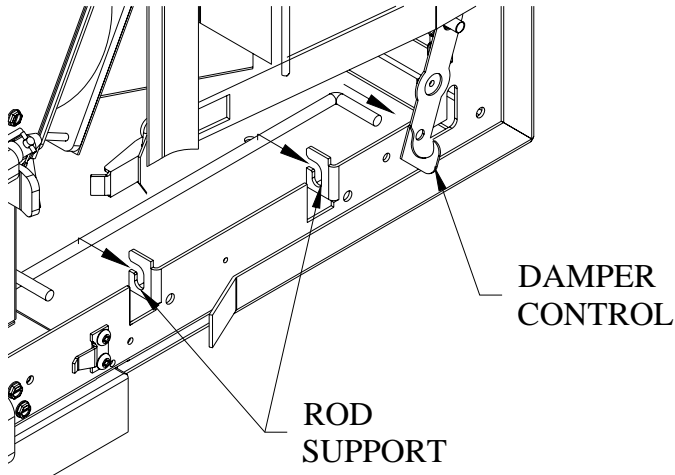

Figure 24
- 1- Install the damper rod as shown in Figure 24 & 25